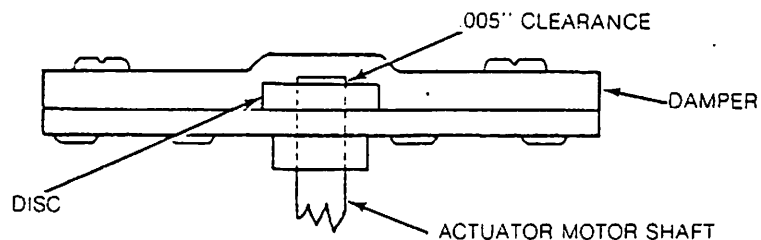

FIGURE 4.
- b. Place the damper on the shaft and press down until the motor shaft protrudes from above the disc approximately .005" (reference Figure 4).